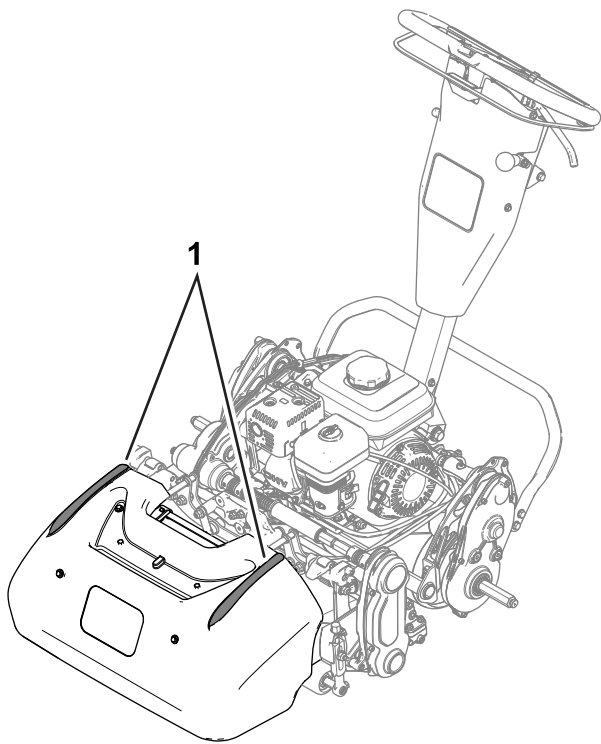

Figure 20
- To assist in maintaining a straight line across the green and to keep the machine an equal distance from the edge of the previous cut, use the alignment stripes on the basket (Figure 20).